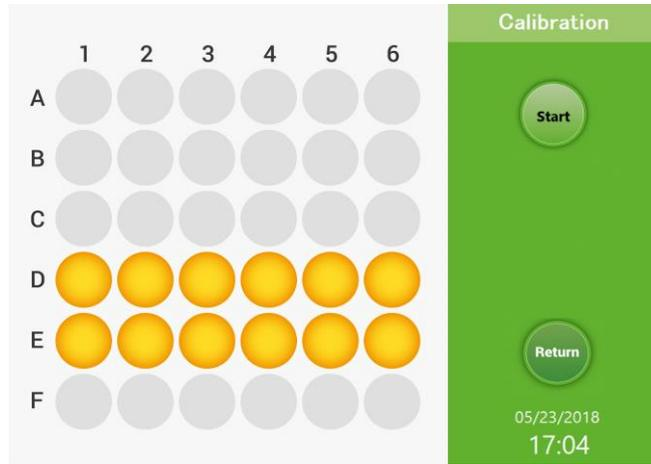

Figure 5b
- b. when it is switched to "Calibration Mode" as Figure 5b (The box at upper right side indicates "**Calibration**" Mode). The wells selected on the sample information table will become orange after input (as figure 5b)